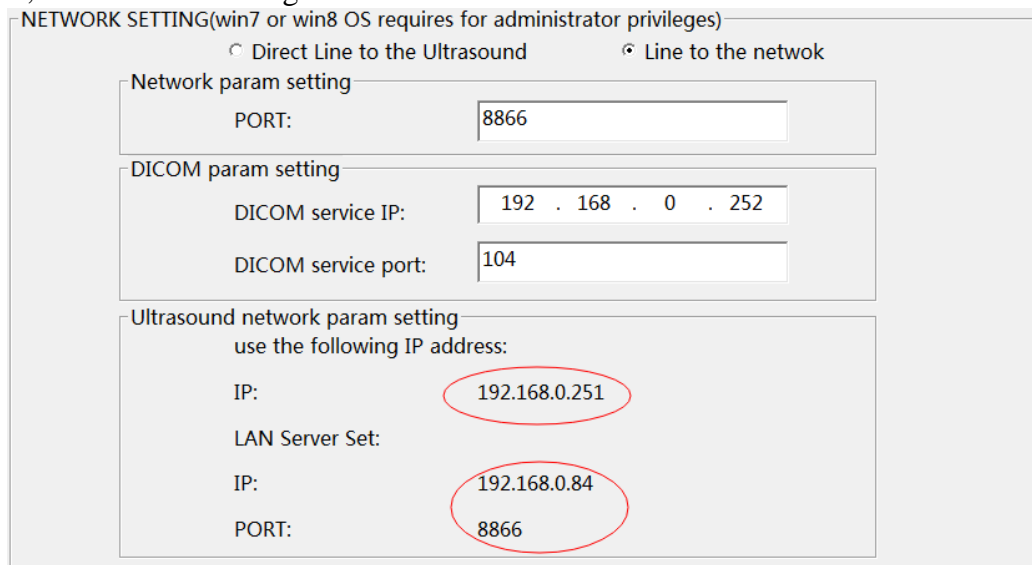
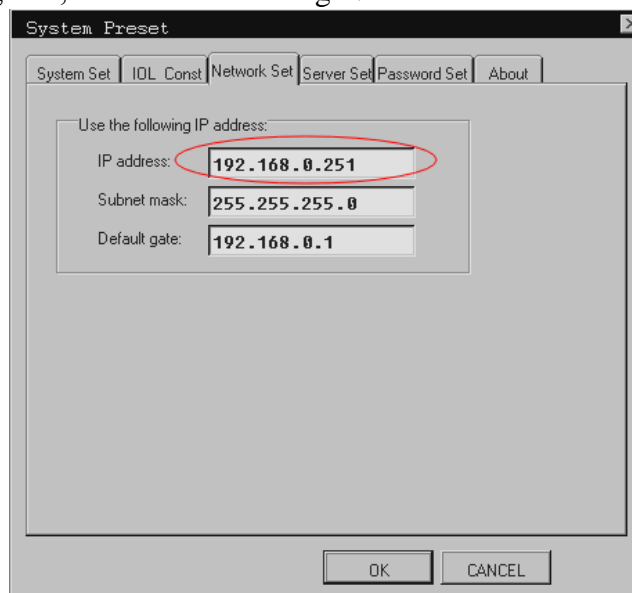
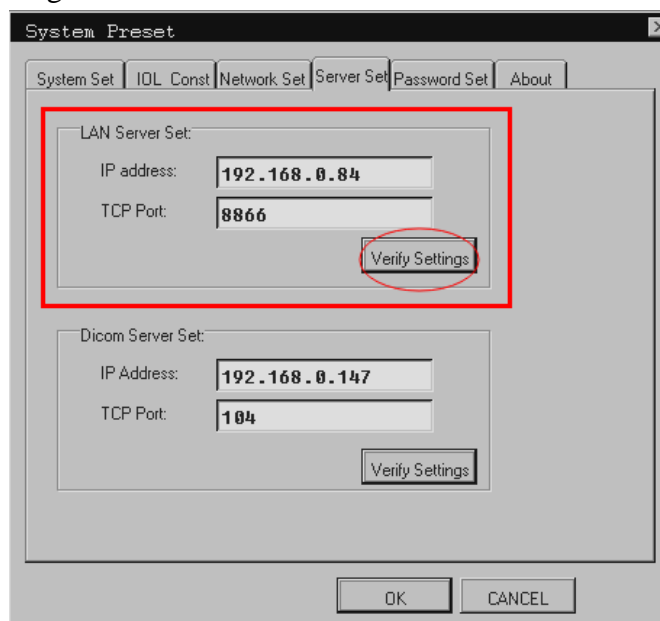

Fig 1. Network Setting on the way “Line to the network”
Fig 2. Network Set in the way “Line to the network”
Fig 3. Server Set in the way “Line to the network”
- In the Network Printer software, click the system setting icon , in the “Network param setting”, the default value of PORT is 8866, usually it doesn't need to re-set. Select the way “Line to the network”, click  button, the ultrasound network parameter automatically appears, as shown on the Figure 1:
- Press  key on the keyboard to open “System Preset” dialog box, select 『Network Set』, press 『Set』 key to show the “Network Set” dialog box, the IP address of the instrument in the “Ultrasound network parameter setting” appeared on Fig 1 directly are entered into the “Network Set” dialog box, as shown on the Fig 2:
6. Press  key on the keyboard to open “System Preset” dialog box, select 『Server Set』, press 『Set』 key to show the “Server Set” dialog box, the “LAN Server Set” in the “Ultrasound network parameter setting” appeared on Fig 1 directly are entered into the “Server Set” dialog box, as shown on the Fig 3: